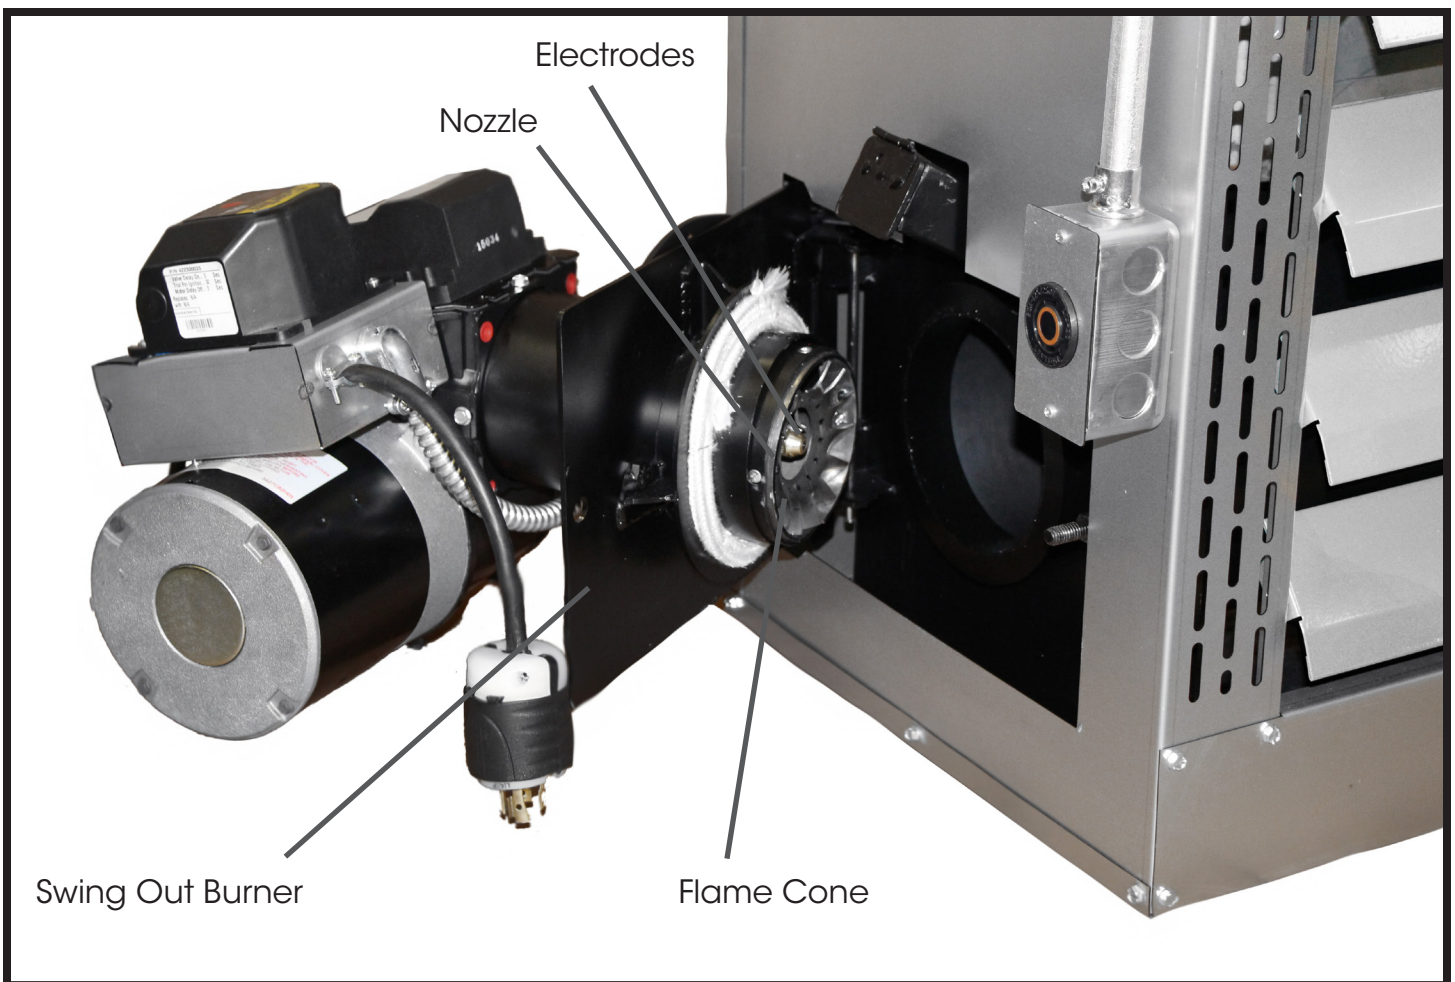

Figure 6 - Burner Door View
- Clean the nozzle, flame-cone and oil heater block. Remove one (1) x 9/16 nut from the burner side of the cabinet to swing the burner away from the unit to easily access and clean the nozzle and flame-cone. (figure 6 below).
- Replace nozzle as needed when flame deteriorates with no retention at flame cone, depending on usage (figures 6, 7, 8 and 9 below). Will lose efficiency due to erosion. This can be accessed by swinging the burner clean out door open (figure 6 below).
- **IMPORTANT:** TO TURN POWER OFF, Remove electrical plug from heater cabinet to burner. Remove 9/16" burner securing nuts, remove the burner side clean-out door. Remove nozzle with 5/8" socket (figures 6 and 7 below).
To adjust, remove burner from cabinet (figure 6 below), loosen Preheat Sink securing nut and set screw, push fore or aft as needed. **WARNING:** This adjustment is done at the factory and should not be moved unless figure 8 dimensions have been altered.
| Is tank empty? | • Plugged filter or tank oil empty | • Clean filter; using vent port, reprime pump (figures 6 & 7) |
| 4. Hard starting diminished | ◆ Partially plugged filter | ◆ Clean filter; using vent bleeder port on pump, re-prime pump (figure 6 & 7) |
| | ♣ No oil to burner | ♣ Check pump screen; remove pump cover and clean if needed. Using vent bleeder port, re-prime pump (figures 6 & 7) |